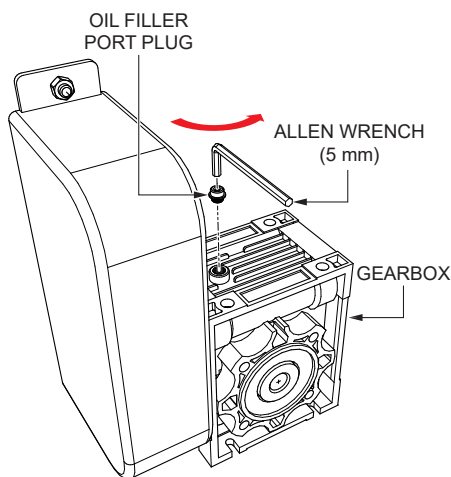

Figure 30. Removing Oil Filler Port Plug
2. Using a 5 mm allen-wrench, remove plug (oil filler port) on top of gearbox as shown in Figure 30.